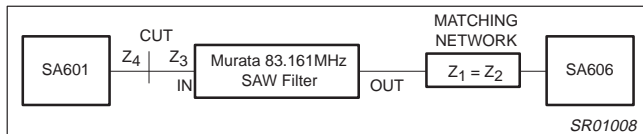

Figure 9. Impedance Matching from SA601 to SAW Filter
- Obtain a conjugate match to Z_3 at the SA601 mixer output, Z_4 , and then connect together (Figure 9).